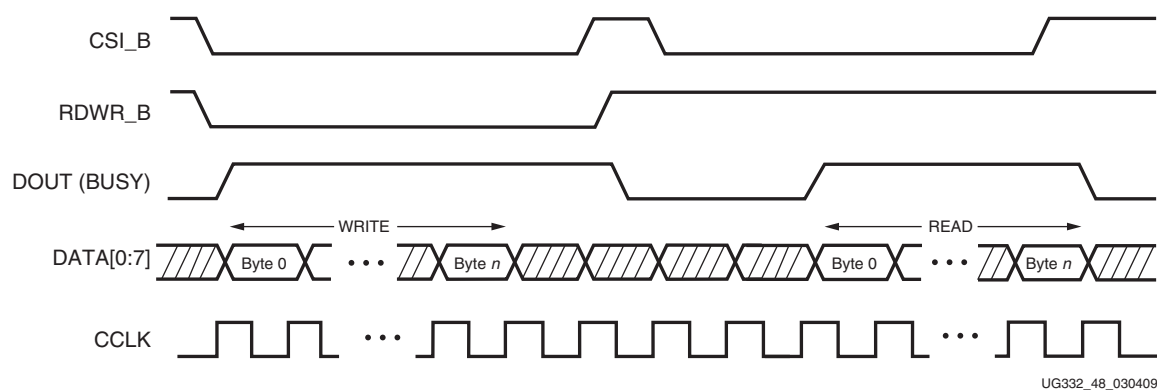

Figure 18-1: Changing the SelectMAP Port from Write to Read Control
4. This procedure is illustrated in Figure 18-1.